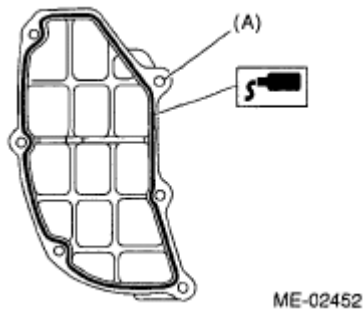

Fig. 186: Applying Liquid Gasket To Mating Surfaces And Threaded Portion Of Bolt
27. Apply liquid gasket to the mating surfaces and the threaded portion of bolt (A) shown in **Fig. 186** (when reusing the bolt), and then install the oil separator cover.